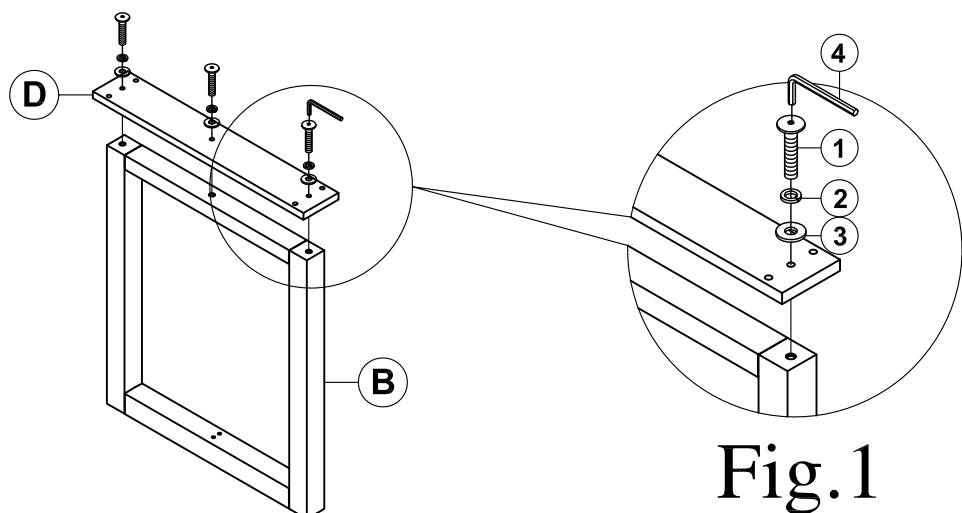

Fig.1
Attached Mounting Plate (D) to the Table Leg (B) using the provided hardware as shown on Fig.1 .